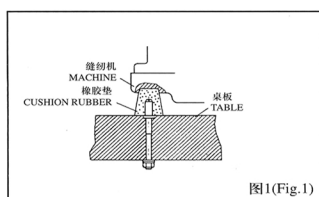

图1(Fig.1)
1、依本机器所付桌板裁制图及零件组合图所列配件，依序安装防震机座及线架（图1&2）
1、With reference to diagrams for table cutting and mounting part list, install vibration-reducing base and thread stand in sequence (Fig.1&2)